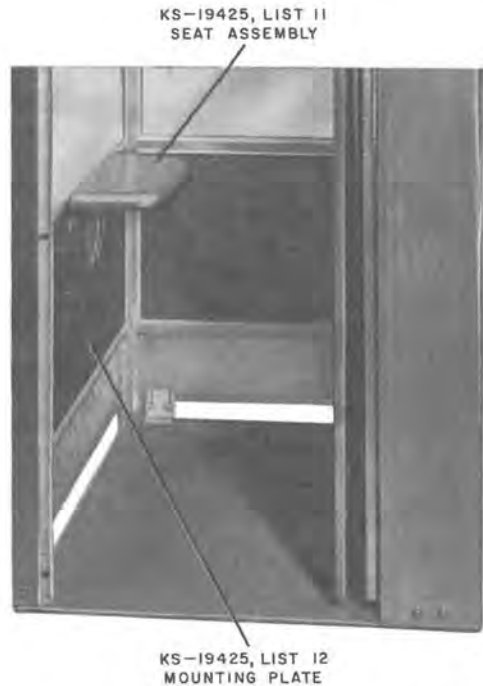

Fig. 11—KS-19425, List 11 Seat Assembly With KS-19425, List 12 Mounting Plate
- 2.22** A KS-19425, List 11 seat assembly (Fig. 11) may be used if desired.
- 2.23** A KS-19425, List 12 mounting plate (Fig. 11) must be used for mounting the seat.